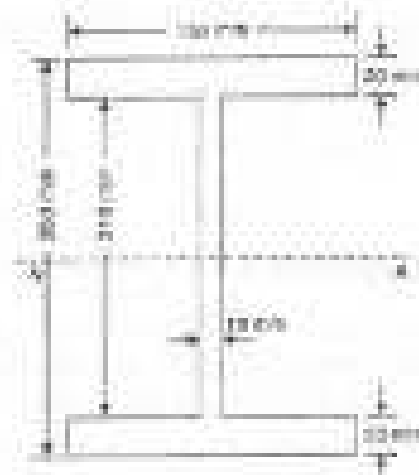

Fig 2
- b) An I-section beam $350 \text{ mm} \times 150 \text{ mm}$ has a web thickness of 10 mm and a flange thickness of 20 mm . (Fig. 2) If the shear force acting on the section is 40 kN , find the maximum shear stress developed in the I-section. Also sketch the shear stress distribution across the section.